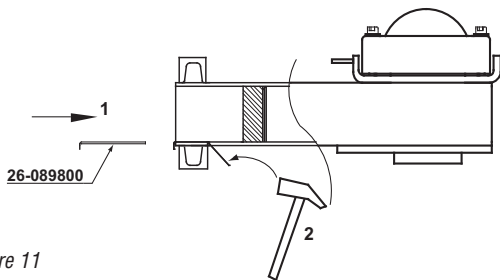
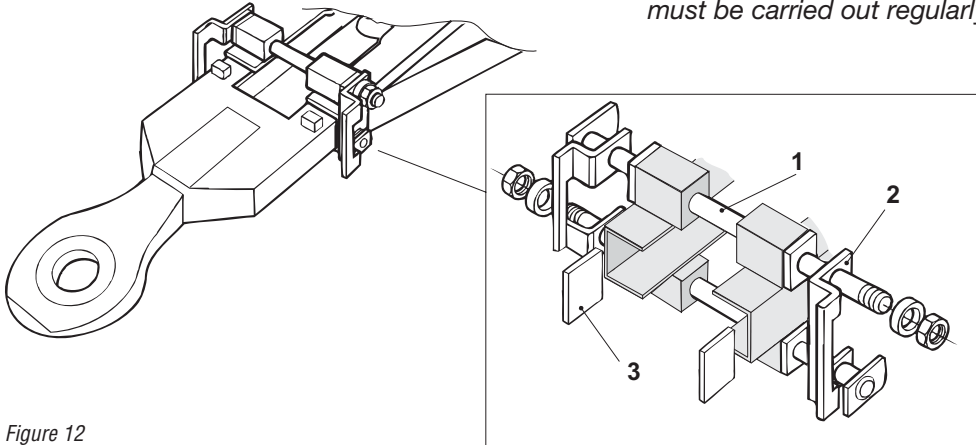

Figure 11
Figure 12
* Play can be reduced by using wear plates 26-089800. These can be added both above and below and if necessary more than one wear plate at each location. See figure 11.
For maximum length of life there should be no sideways play between front and rear sections. See figure 12 for adjustments. Bolts etc. must be regularly checked for tightness. If driving is carried out for longer periods in one position, the adjustment bolts should be tightened to reduce wear and play. A rebuild kit 26-075700 is recommended for older drawbar models.
12:1 Remove the adjustment bolts (see *figure 12*, item 1), stop plates (2) and wear plates (3) plus any wear sheets if installed, see *figure 11*.
12:3 Re-mount the adjustment bolts as per *figure 12*.